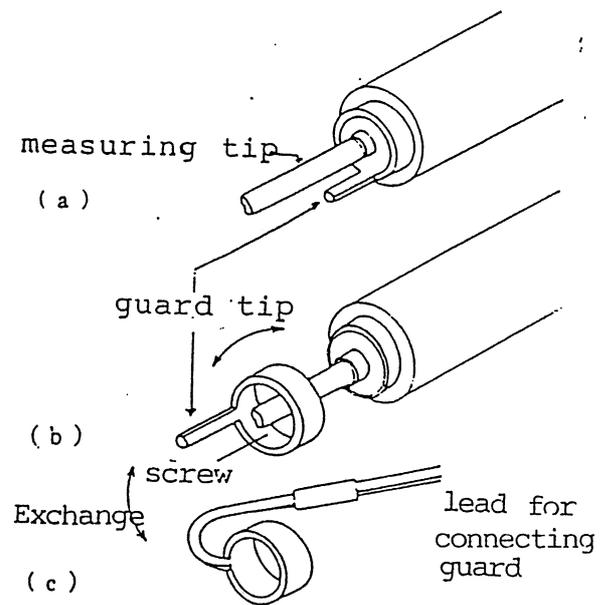

Fig. 2
- 1) Remove the measuring leads from  $\overline{R_x}$  terminals, and take out a guard tip at the tip of red measuring rod as shown in Fig. 2 by turning it counterclockwise. Then, attach an accessory lead for guard connection (guard tip w/ leadwire) by turning it clockwise.